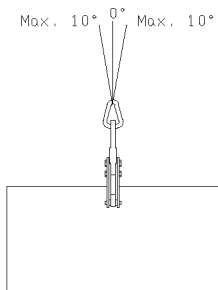

Figure 2
8. Never exceed ten degrees (10°) side loading with a “V” series clamp (Fig. 2).
- Never exceed ten degrees (10°) side loading with a “V” series clamp (Fig. 2).